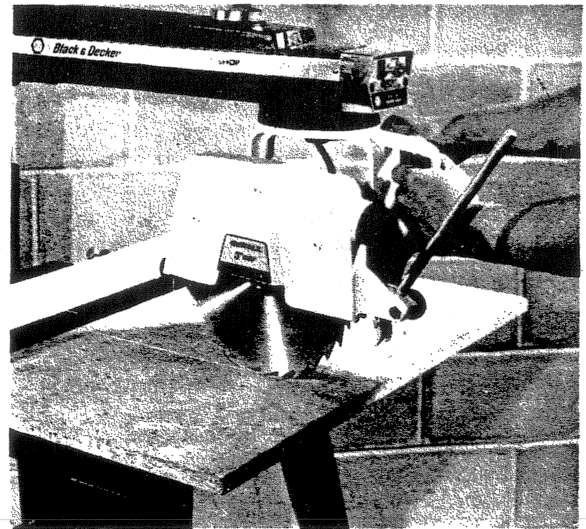

FIGURE 1
- (d) Lower the arm (saw still running) $\frac{1}{4}$ turn. Pull the saw forward to the end of the arm with your *left hand*. This will cut a groove in the table top $1\frac{1}{32}$ " deep. Tighten Rip Lock. (Refer to figure 1)
- (g) Return saw to position shown in figure 1. Lock Rip Lock and start motor. Using the yoke clamp handle, release the pressure on the bell and rotate saw counterclockwise, to the outtrip position. This cuts the swing line for outtripping. Loosen rip lock.
- (i) Return saw to position shown in figure 1 and move to the rear position behind the fence.